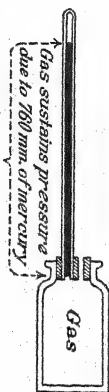

FIG. 57. — The gas is under a pressure equal to that of one atmosphere.
**58. The Barometer.** A simple barometer consists of a Torricellian tube which has been fitted with a graduated scale so that the height of the mercury can be easily measured. Of course the height of the mercury column will vary as the pressure of the air changes slightly from day to day. The student must remember as he works with gases in the laboratory that a bottle of gas is at all times under pressure due to the atmosphere. Figure 57 shows that a bottle of gas standing on the laboratory desk really sustains a pressure equivalent to that